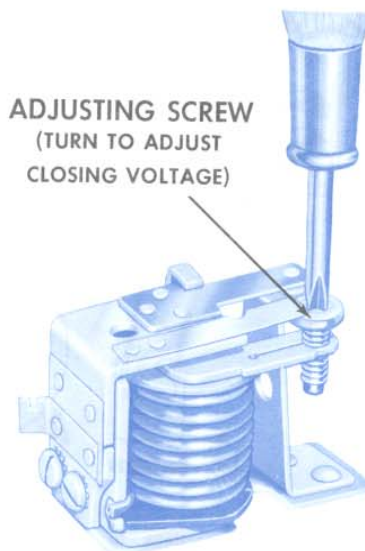

Figure 8—Adjustment of cutout relay closing voltage.
1. Adjust closing voltage by turning adjusting screw as shown in Figure 8. Turn screw *clockwise* to increase setting and *counter-clockwise* to decrease the setting.
2. Measure air gap between armature and center of core as shown in Figure 8. See specifications in Bulletins 1R-180, 1R-185, and 1R-186.